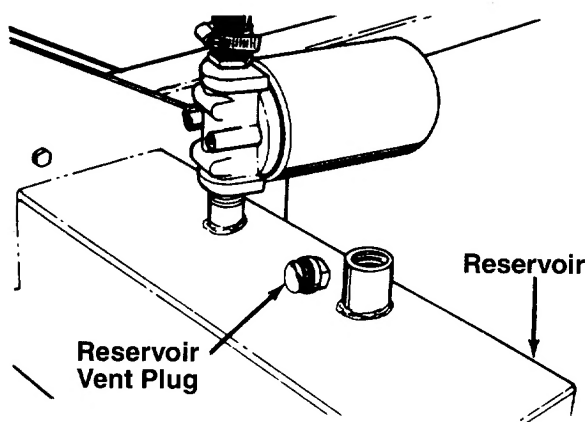

FIGURE 11.
- a. Remove reservoir vent plug. See figure 11. Using Dexron II automatic transmission fluid, or 10W non-foaming hydraulic fluid, fill reservoir to the top. Replace vent plug securely.